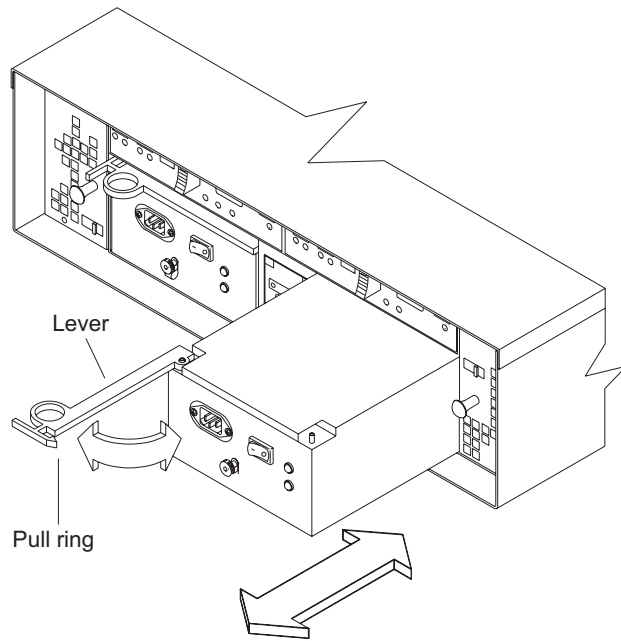

Figure 24. Replacing a power supply
1. Slide one power supply into the expansion enclosure. Be sure to replace the power supplies so that the lever on each power supply opens toward the interior of the expansion enclosure, as shown in Figure 24 on page 43.
Attention: Be sure that the lever is pulled straight out as you slide the power supply into the expansion enclosure, as shown in Figure 24 on page 43.